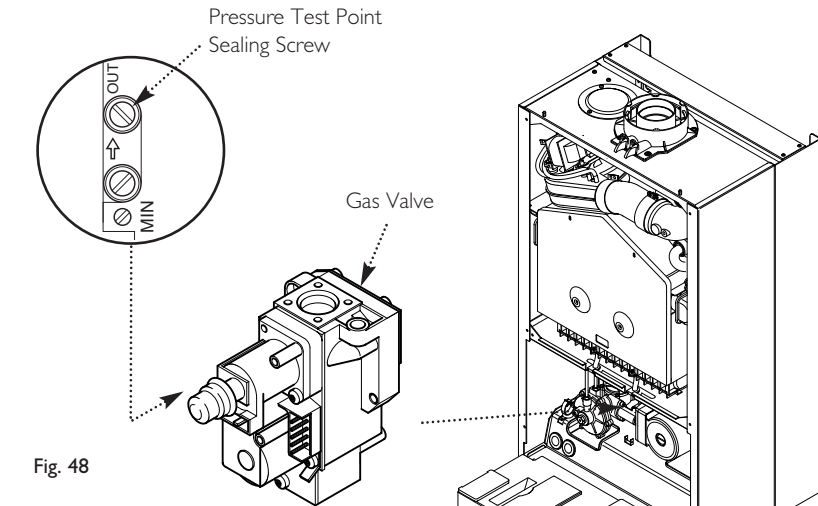

Fig. 48
3. Slacken the pressure test point sealing screw on the gas valve and connect a pressure gauge (Fig. 48).